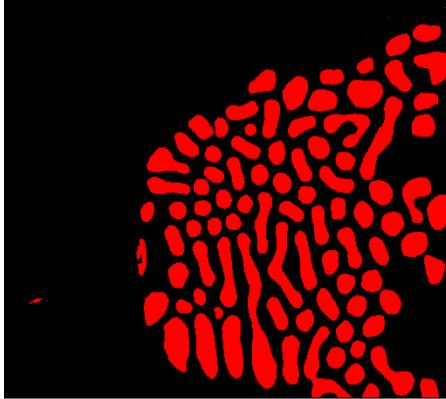

Figure 3-4. Modifying Particles with Morphological Functions
7. Select **Remove border objects** to remove any objects that touch the border of the image. Refer to Figure 3-4 to see what the image looks like after applying morphological functions to the image.